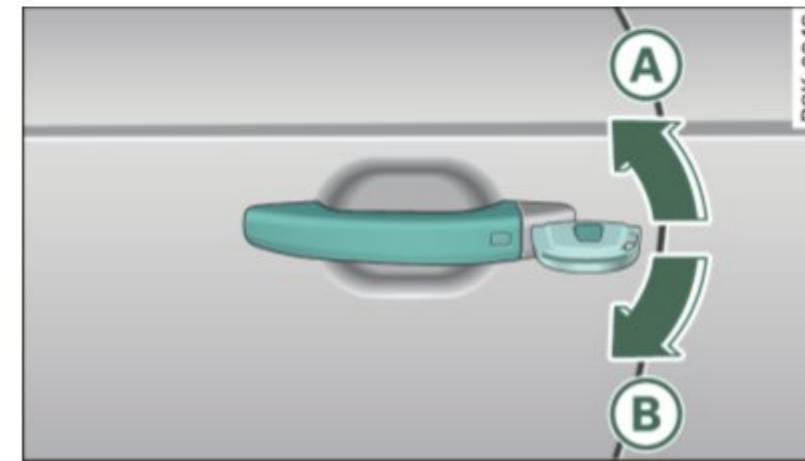

Fig. 43 Key turns for opening and closing
- Turn the mechanical key to position **A** ⇒ fig. 43.